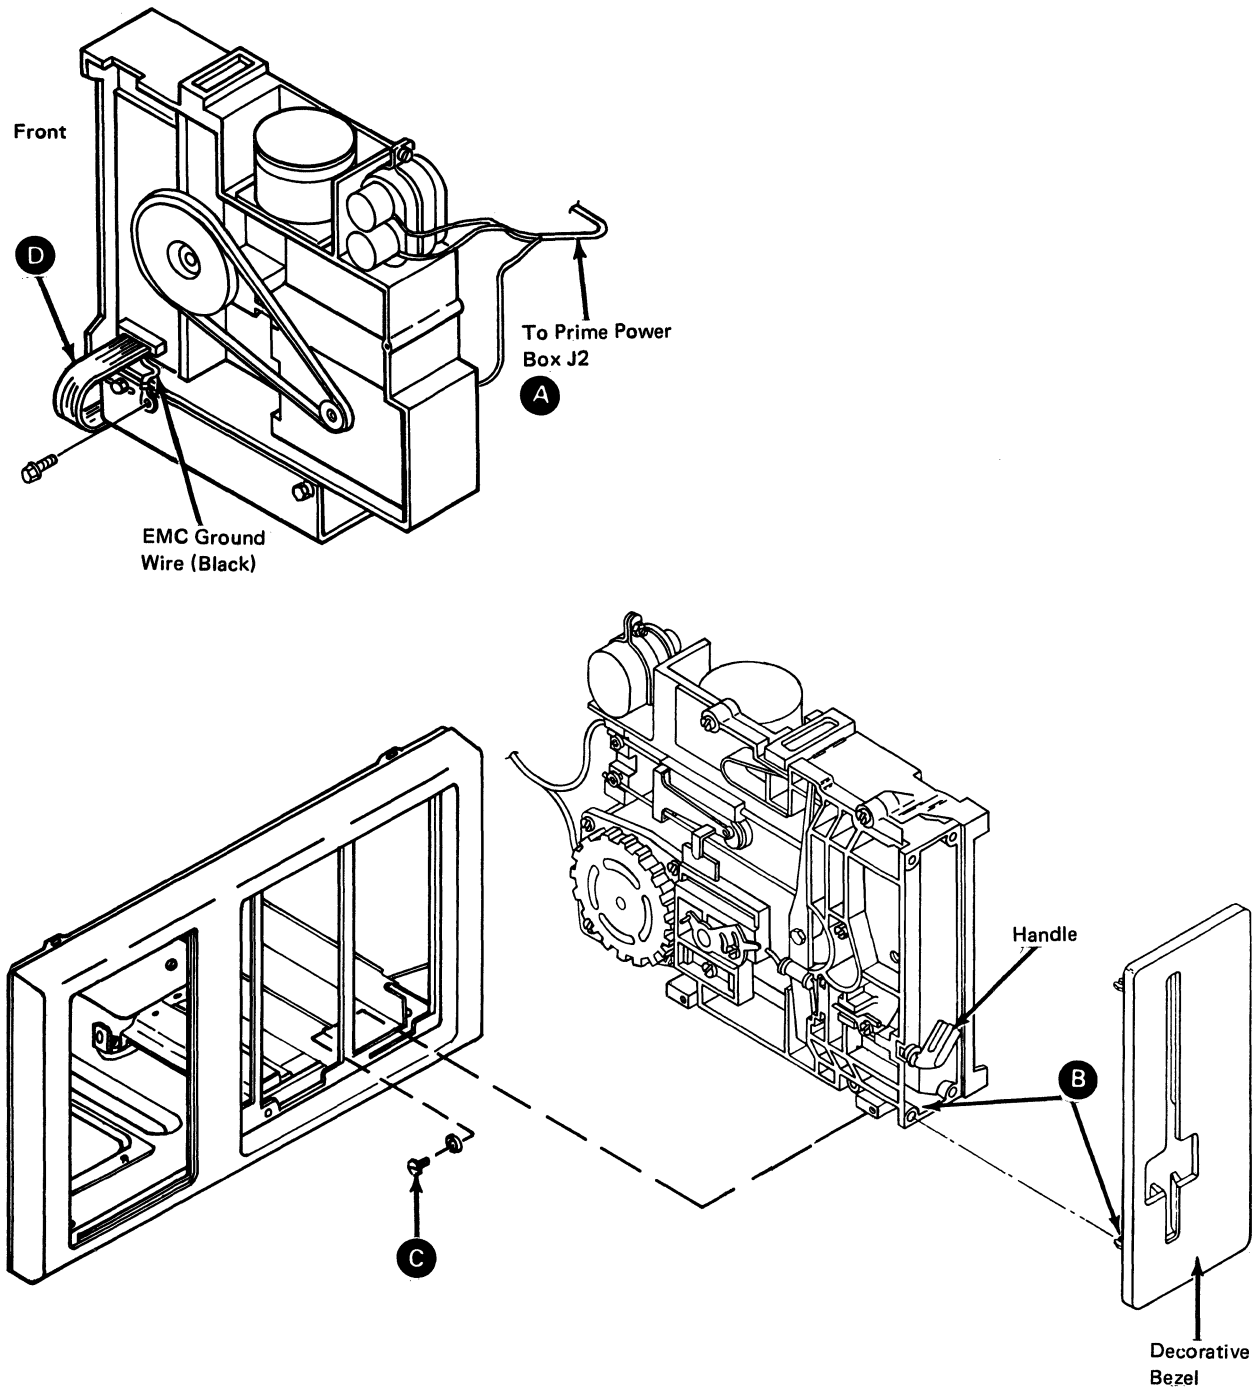

Figure 4-7. 51TD Diskette Drive
4.6 51TD Diskette Drive, Removal and Replacement (Figure 4-7)